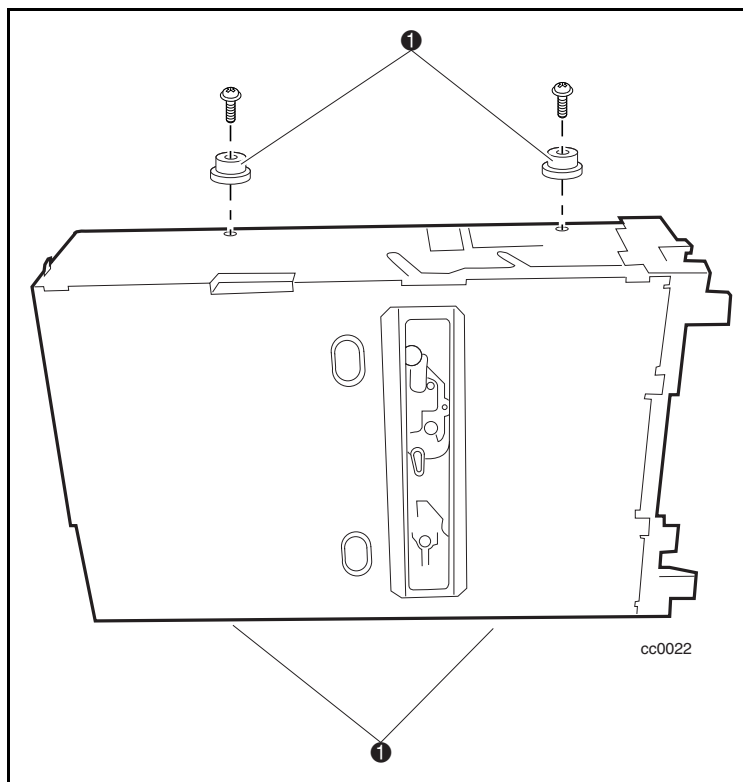

Figure 5. Alignment pin installation
Four alignment pins need be installed into the new drive prior to installation. Each alignment pin consists of a plastic spacer (top hat) and a screw ( ❶ Figure 5).
2. Install the alignment pins at the locations shown ( ❶ Figure 5).